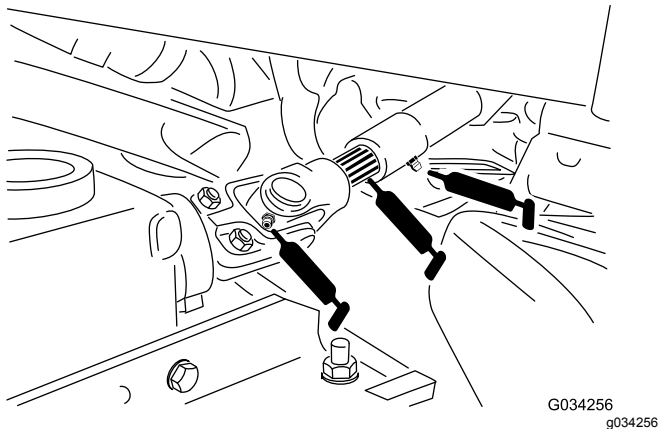

Figure 34
- PTO universal shaft (Figure 34)